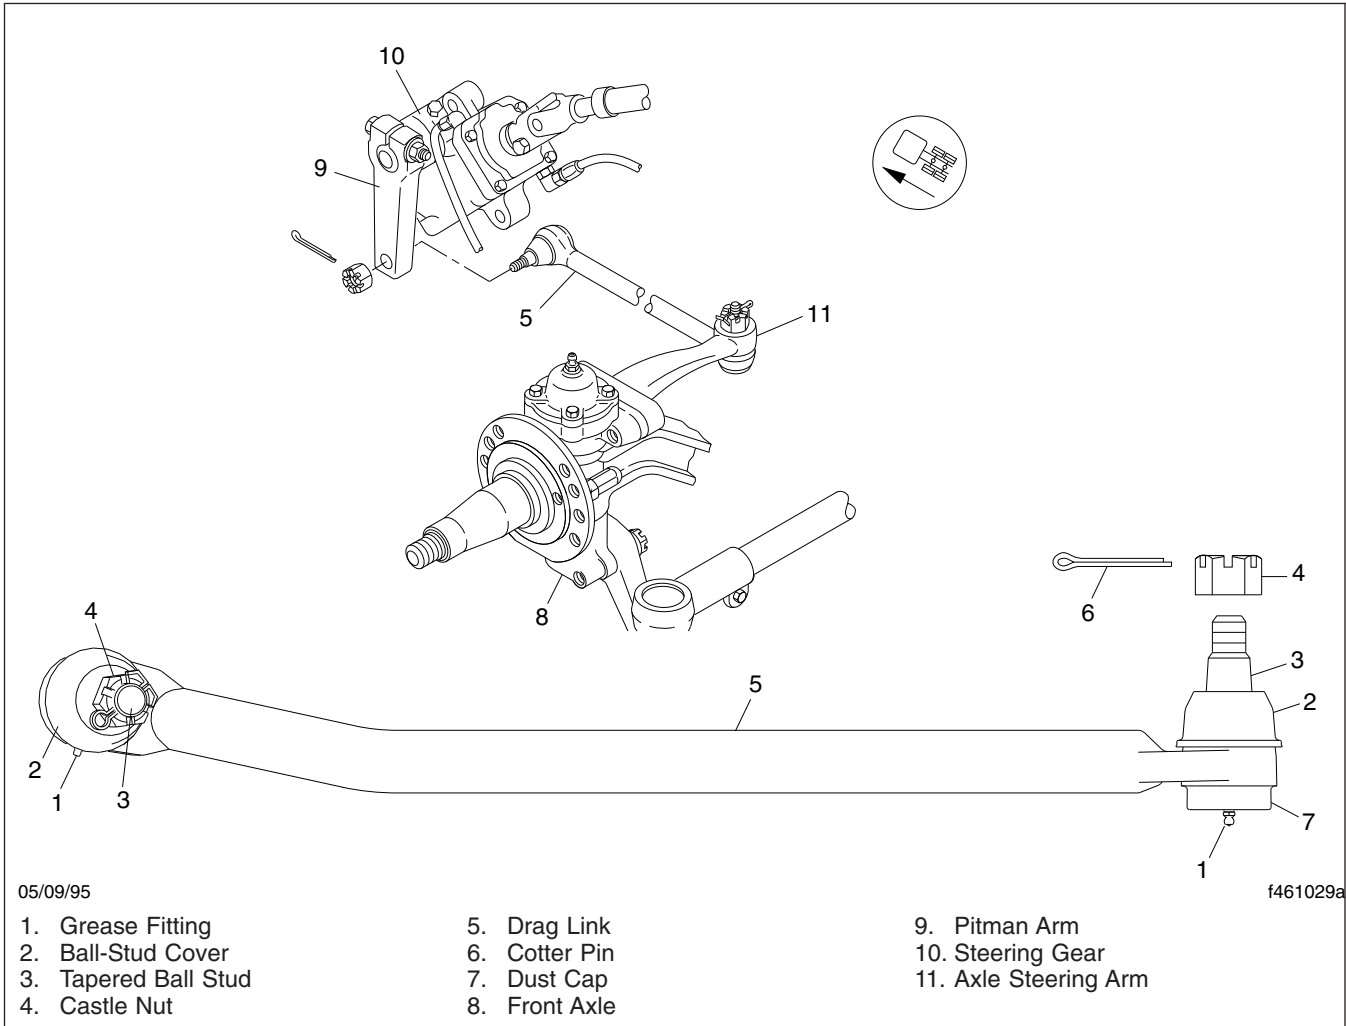

Fig. 6, Drag Link Removal/Installation
2. At both ends of the drag link, remove the cotter pins and castle nuts from the ball studs. See Fig. 6.